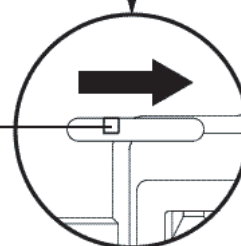

Fig. 2
1. Remove the Top Cabinet and Front Cabinet. **(Refer to item 1 of the DISASSEMBLY INSTRUCTIONS.)**
**(Refer to Fig. 1, Fig.2)**